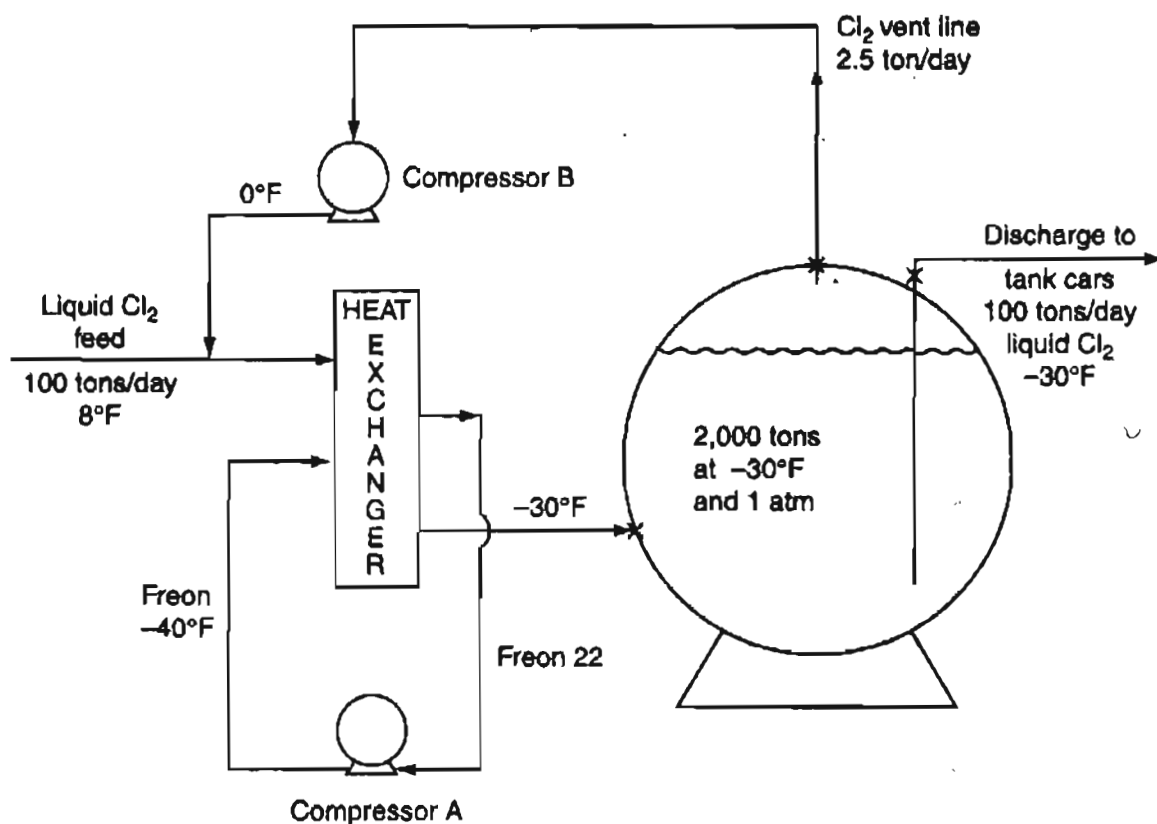

Figure P24.37
- ***24.37 A proposal to store Cl_2 as a liquid at atmospheric pressure was recently in the news. The operation is shown in Figure P24.37.